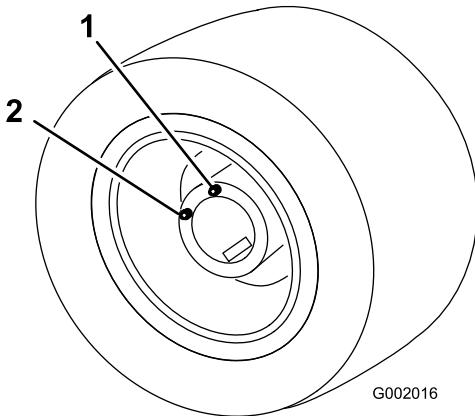

Figure 78
5. Move the vehicle slowly until the wheel is positioned for filling (Figure 78).